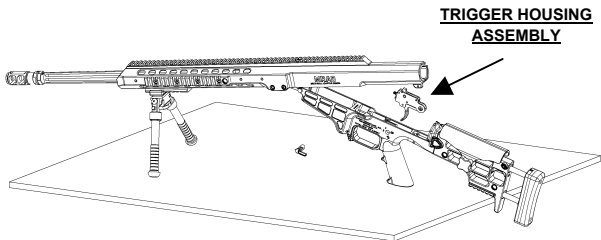

Figure 31.
3. Grasp the trigger housing assembly and slide the trigger housing assembly rearward away from the magazine well opening and lift out of the receiver. (Figure 31.)